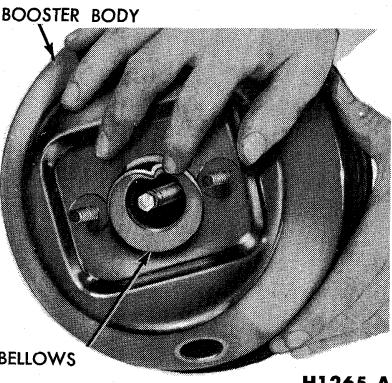

FIG. 24—Bellows-to-Booster Body Engagement
6. Disengage the bellows from the booster body by pushing the bellows into the vacuum chamber (Fig. 24).
17. Pull the front lip of the bellows through the booster body and position it around the outer face of the booster body (Fig. 24).